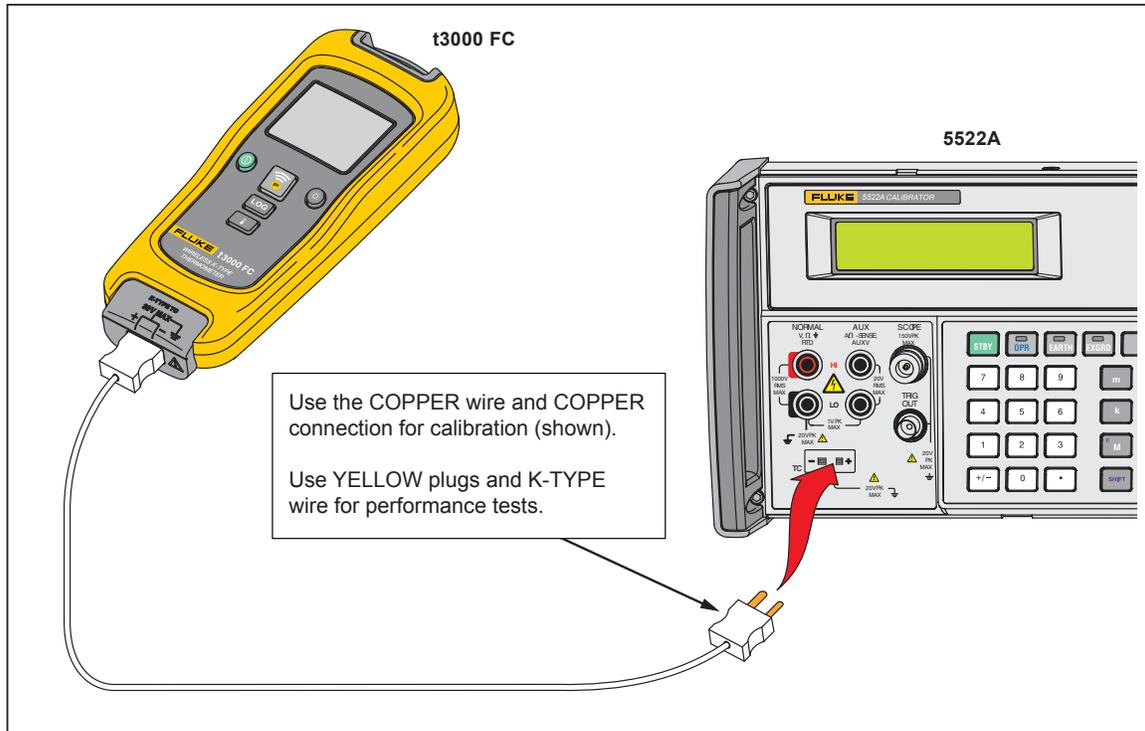

Figure 2. Performance Test and Calibration Connections
1. Connect the Product to Calibrator with the K-type thermocouple wire and the thermocouple connector. See Figure 2.
*To source 30 mV dc from the 5522A Calibrator thermocouple output, it is necessary to select the **10 μV/°C Type** from the softkey menu of the 5500A. Then source 3000 °C. The connections are the same as in Figure 2 but it is necessary to use the thermocouple and wire specified for calibration that is shown in Table 2. Do not use the thermocouple and wire specified for the performance test.*